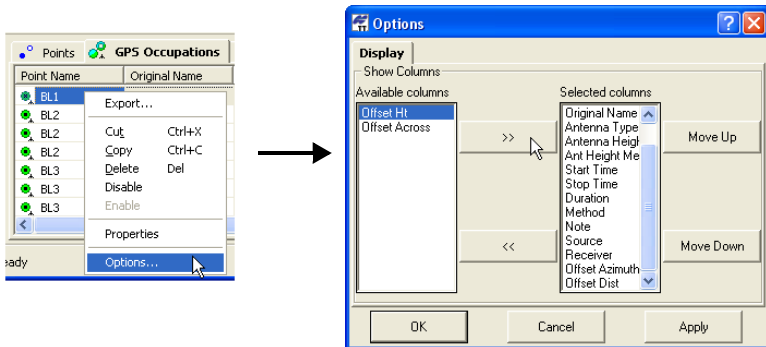

Figure 5-11. View Options
- To edit offsets for GPS measurements, right-click anywhere within the *GPS Occupations* table and click **Options** on the pop-up menu (Figure 5-11).
- On the *Options* dialog box, move the offset selections to the *Selected columns* area (Figure 5-11). Click **OK**.